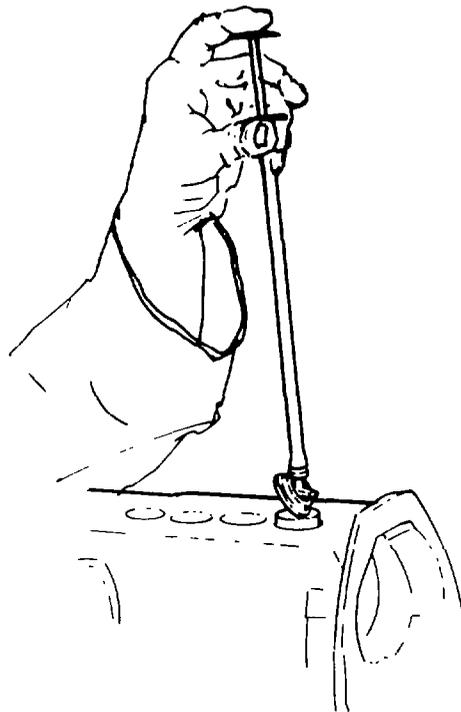

Fig. 104 — Installing Plunger
- y. Assemble the control sleeve (item 27) over the barrel extension with the centre segment gear at 90° to the control rack axis. Segment gaps must face directly toward the inspection window and all must be parallel.
- z. Position the upper spring seats (item 26) over the control sleeves (item 27) and insert the plunger spring (item 25).
- aa. Assemble the lower spring seat (item 24) to the plunger, then grasp each plunger knob with mechanical fingers TSE 7661 so that the notch on the plunger flange will face the housing window.
- ab. Insert each plunger and seat (item 24) into the mating barrel as shown in fig. 104 and make certain that the notched plunger flange is facing the inspection window.